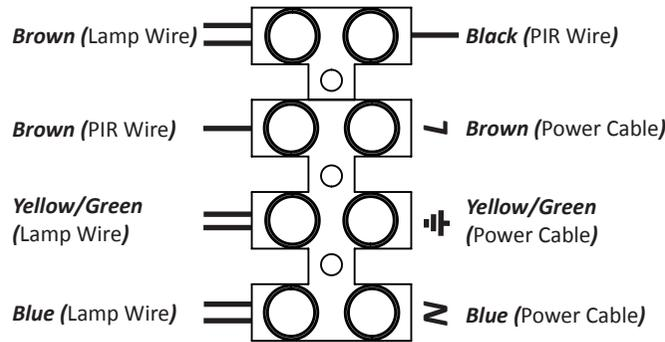

Fig.1
For installation of your fortress outdoor spotlight, please refer to the Fig.1
5. Connect the Power Cable to the Terminal Block, see Fig.1, and ensure the cable is drilled through the Rubber Gasket (supplied) to maintain the fittings IP rating.